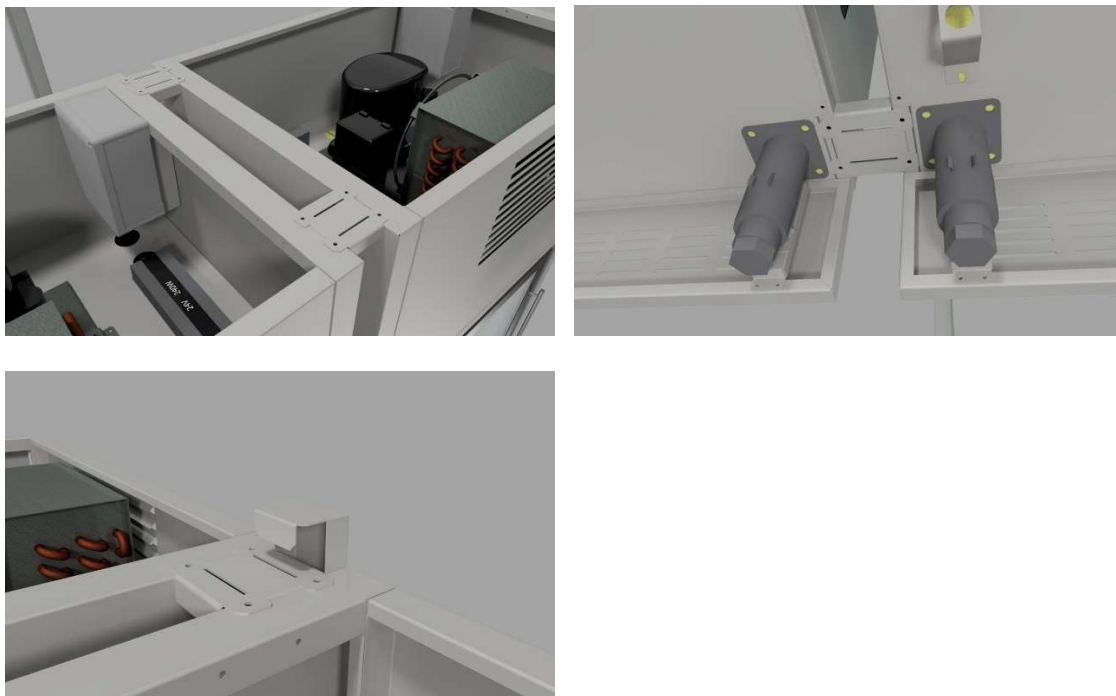

Fig. 8
In the case where two (2) wine cabinets are installed together, it is necessary to leave a gap between them or to install a vertical plinth as shown in Figure 8 to avoid condensation on the side glasses. This is not needed when the wine cabinets are climate class V.